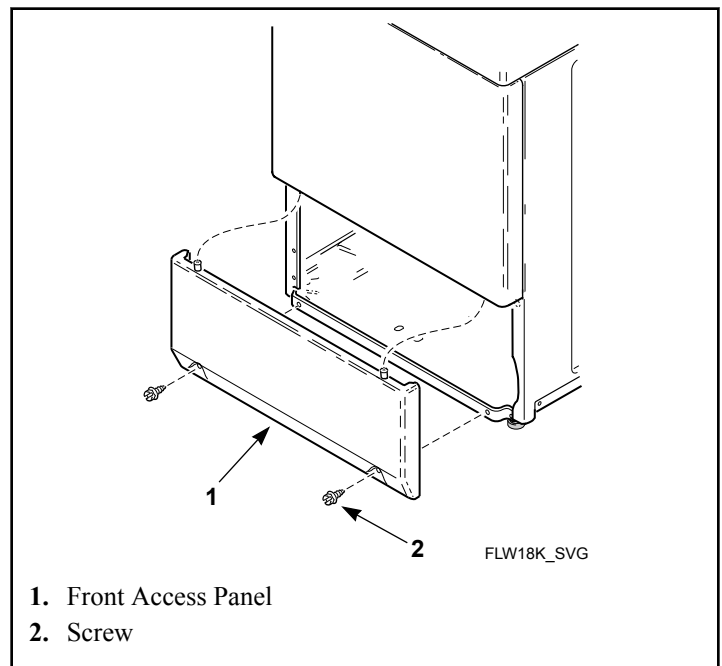

Figure 5
13. Remove front access panel at the lower front of unit by removing two screws from bottom edge of panel. Refer to *Figure 5*.
11. Remove front access panel at lower front of washer by removing two screws from bottom edge of panel. Refer to *Figure 5* .
15. Remove front access panel at the lower front of unit by removing two screws from bottom edge of panel. Refer to *Figure 5*.